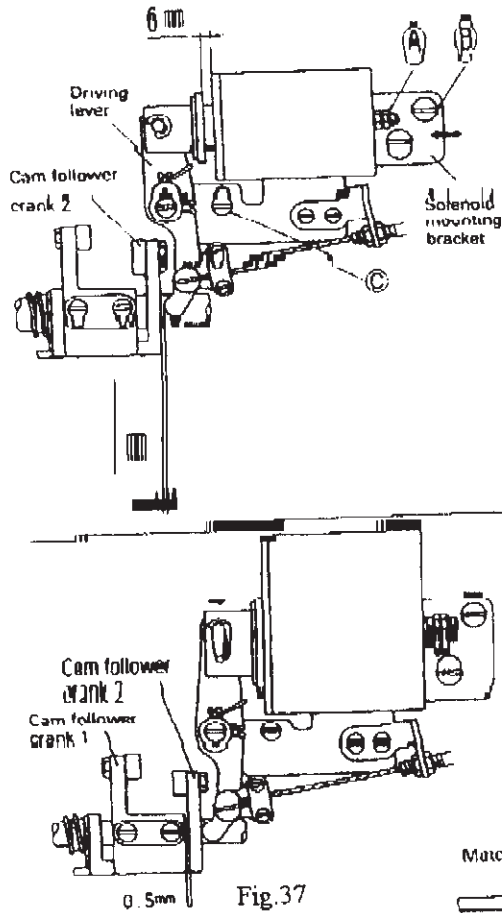

Fig. 37
4) Installing the thread trimmer solenoid unit (Fig.37):